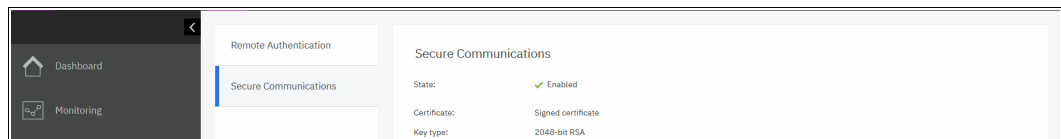

Figure 3-52 Signed certificate installed
8. Reconnect to the GUI and select **Settings** → **Security** → **Secure Communications**. The window that opens should show that you are using a signed certificate, as shown in Figure 3-52.